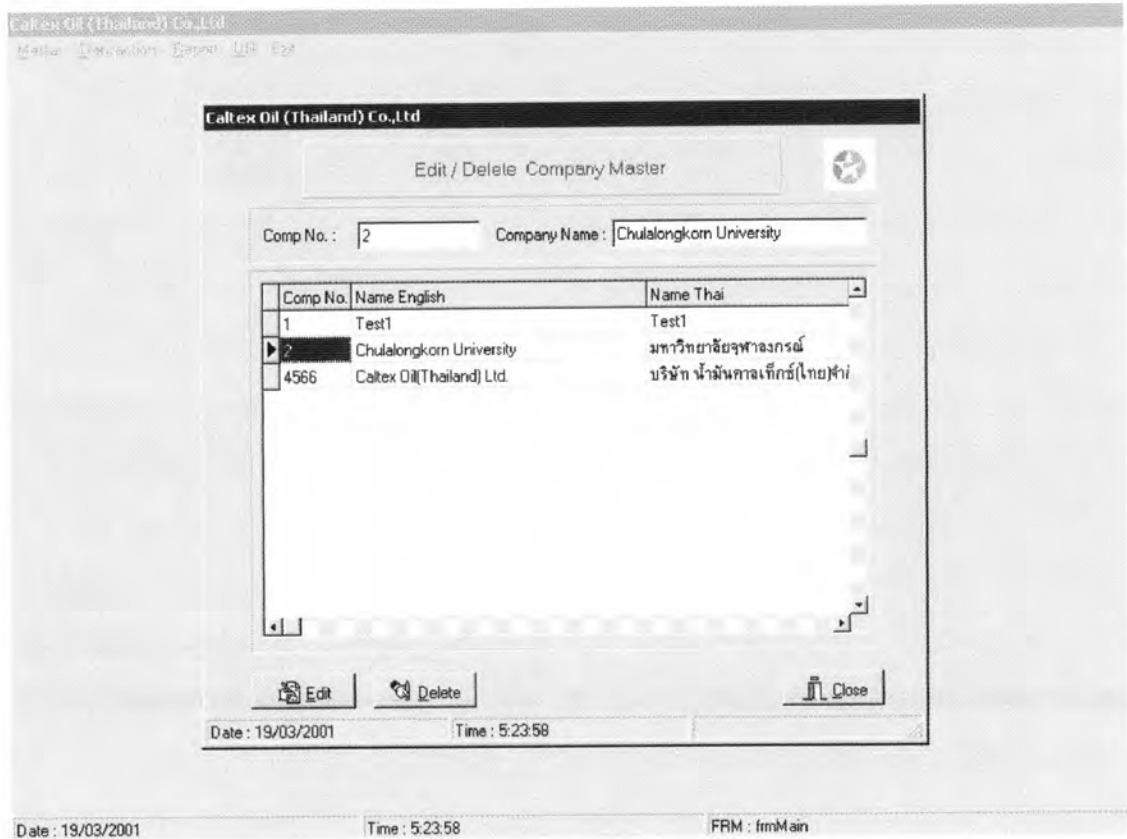

Figure 4-7 Edit / Delete Company Menu
b) Edit company data (see figure 4.7)